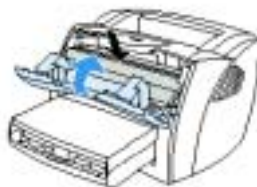

Figure 14. Inserting the Cartridge
6. Insert the new toner cartridge in the printer, making sure that the toner cartridge is in the correct position. Figure 14 shows where to insert the toner cartridge.